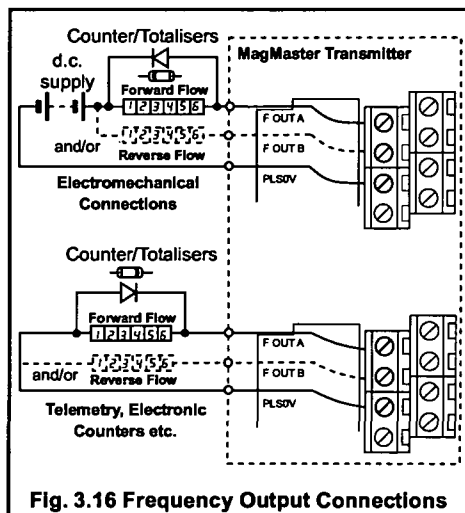

Fig. 3.16 Frequency Output Connections
3.4.1 Frequency Outputs – Fig. 3.16